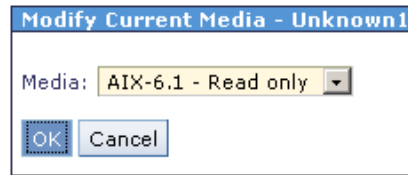

Figure 6-23 Create partition - modify current media of virtual optical device
12. Change the selected media from *none* to AIX-6.1 and click **OK**. See Figure 6-23.